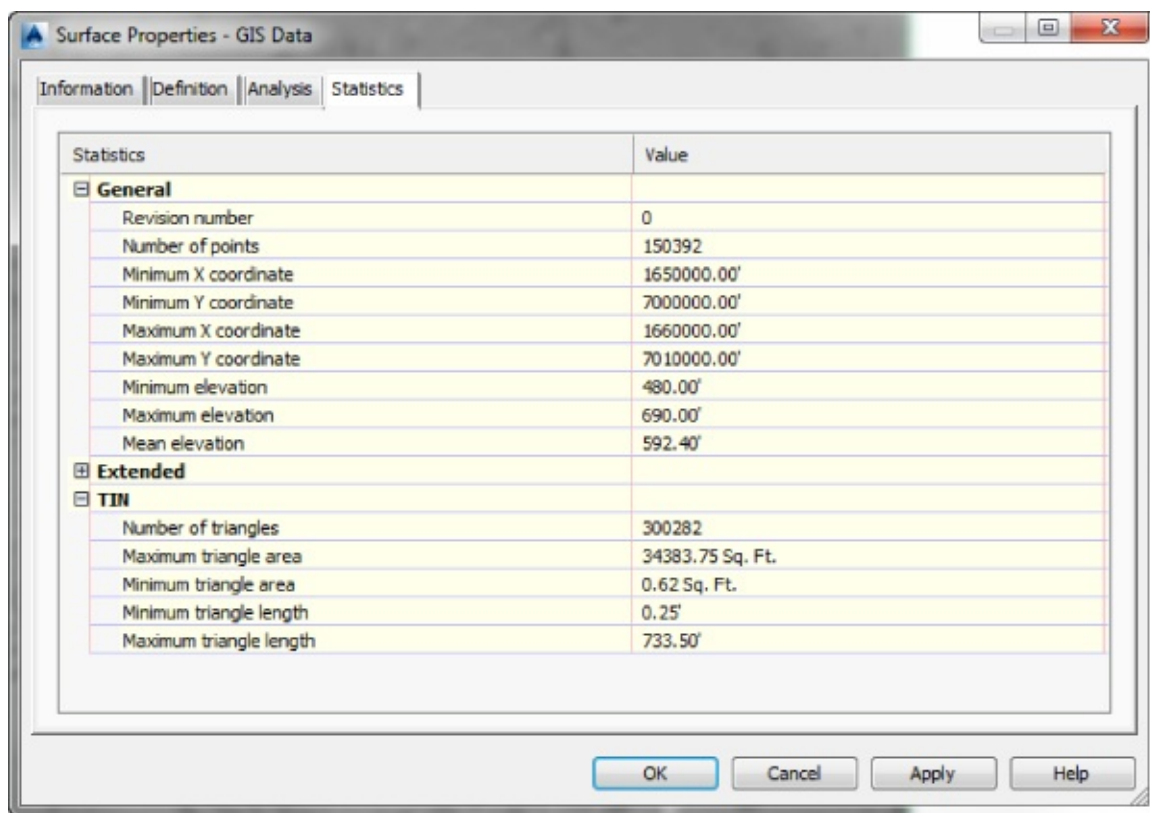

Figure 4.37 GIS Data surface statistics before simplification
- Open the 0411_SurfaceSimplify.dwg file (or the 0411_SurfaceSimplify_METRIC.dwg file). For reference, the surface statistics of the GIS Data surface are shown in Figure 4.37.